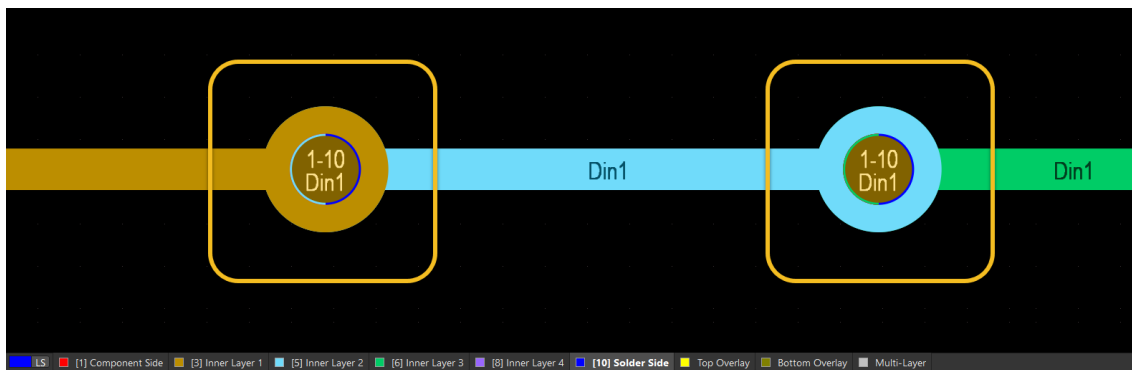

Figure 11. Via color coding for Back Drill
25. Switch to the 2D viewing mode and zoom into the back drilled vias. You can see that they have a bicolored inner circle indicating that they are back drilled. The colors indicate which layers are involved, Figure 11.